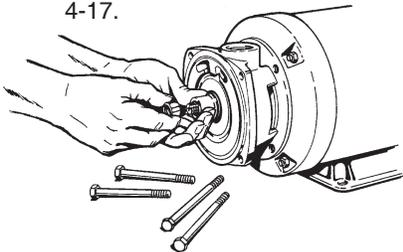

Figure 4-17
- j. While maintaining inward pressure on the hub, install the impeller nut. Refer to Figure 4-17.